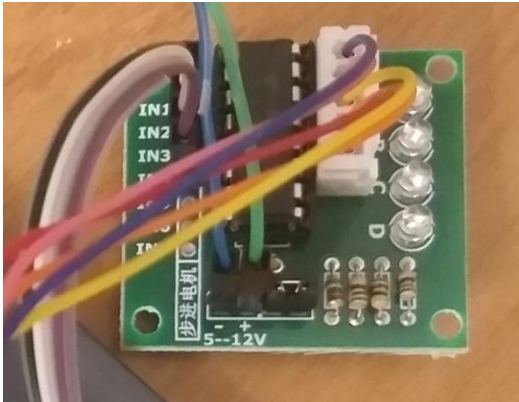
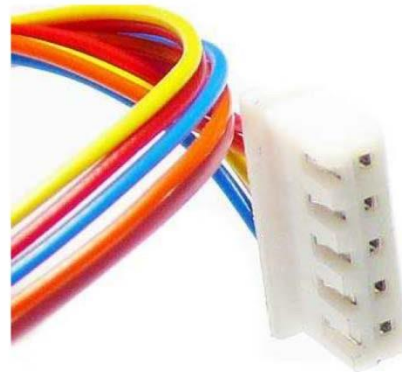

Fig. 6: ULN2003-based Driver Module
Fig. 7: Stepper Motor Signal Plug
(3) Connect the driver module
Step 7: The driver board (Fig. 6) is based on the ULN2003 IC (see Fig. 5), which **contains** an array of **seven pull-down Darlington transistor switches**. We will only be **using the first four** switches to **selectively connect the four outer stepper motor winding terminals to ground**. Make the following connections: (1) connect **IN1_out** from **pin #15** on the **LTV-847** to **socket IN1** on the **driver module**; (2) connect **IN2_out** from **pin #13** on the **LTV-857** to **socket IN2** on the **driver module**; (3) connect **IN3_out** from **pin #11** on the **LTV-857** to **socket IN3** on the **driver module**; and (4) **connect IN4_out** from **pin #9** on the **LTV-857** to socket **IN4** on the driver module.
(4) Connect the stepper motor
Step 8: Plug the **5-conductor stepper motor** signal cable (Fig. 7) into the driver module socket.